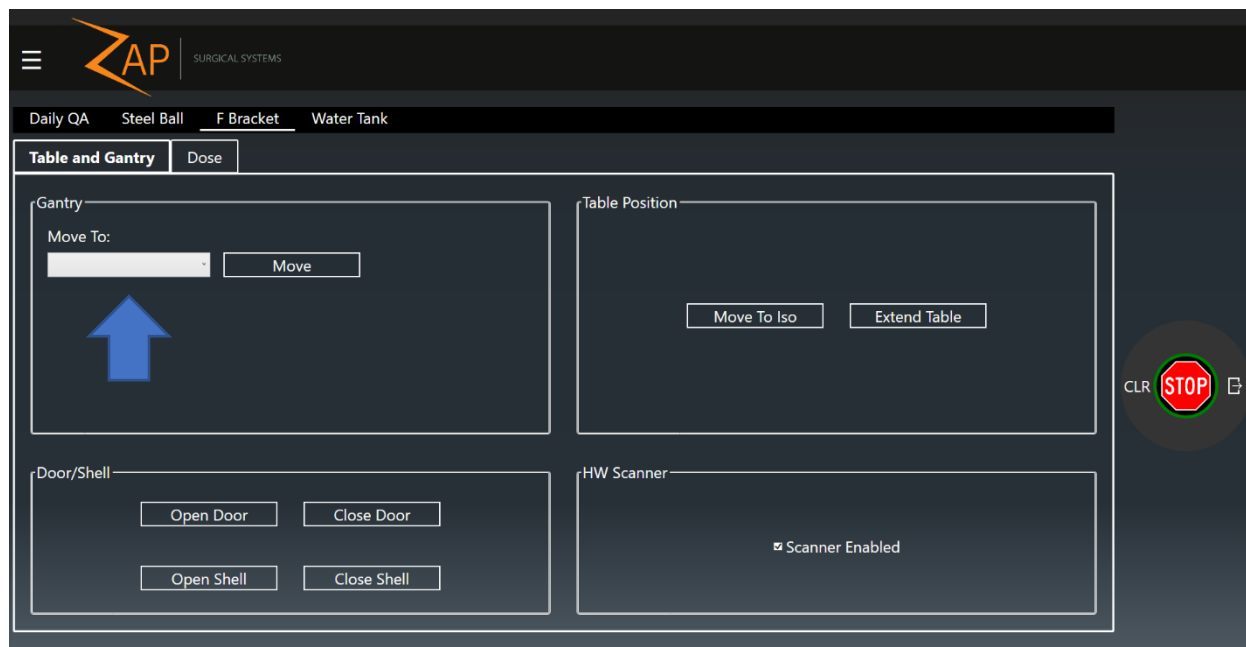

Figure 3-11 F Bracket page, Table and Gantry tab. Arrow highlights selection of desired gantry position.
3. Verify that the system is at the Home position, if not, click on the **Daily QA** Icon. Then select the **F Bracket** page and the **Table and Gantry** tab. In the dropdown box for **Gantry, Move To:** select Home and then click **Move** (see Figure 3-11).
the dropdown box for **Gantry, Move To:** select **North Pole** and then click **Move** (see Figure 3-11).
3. Verify that the system is at the desired position, if not, click on the **Daily QA** Icon. Then select the **F Bracket** page and the **Table and Gantry** tab. In the dropdown box for Gantry, Move To: select the desired location and then click Move (see Figure 3-11).